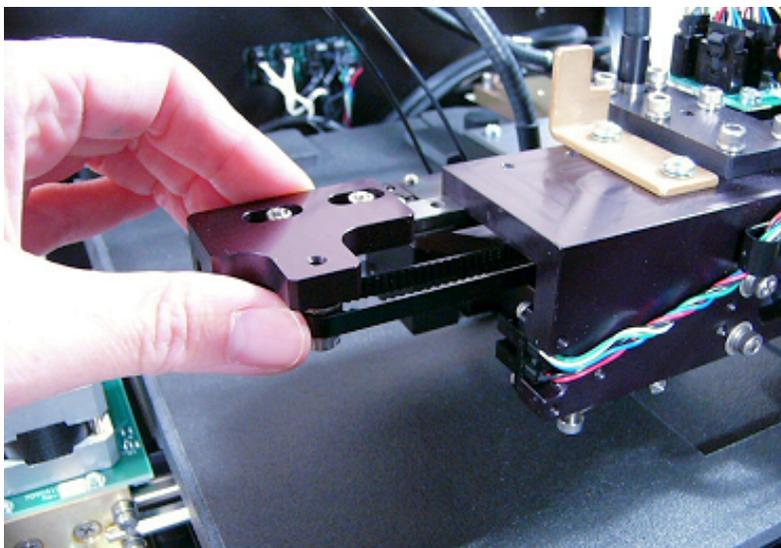

Figure 4-6: Turning the belt drive to position the holder for removal
2. The mirror holder will likely be stored in its “home” position; you’ll need to move it to an accessible position. Use the holder’s belt drive (see Figure 4-6) to roll the holder (to the left) away from the optics armature. Use your thumb to turn the belt counterclockwise.